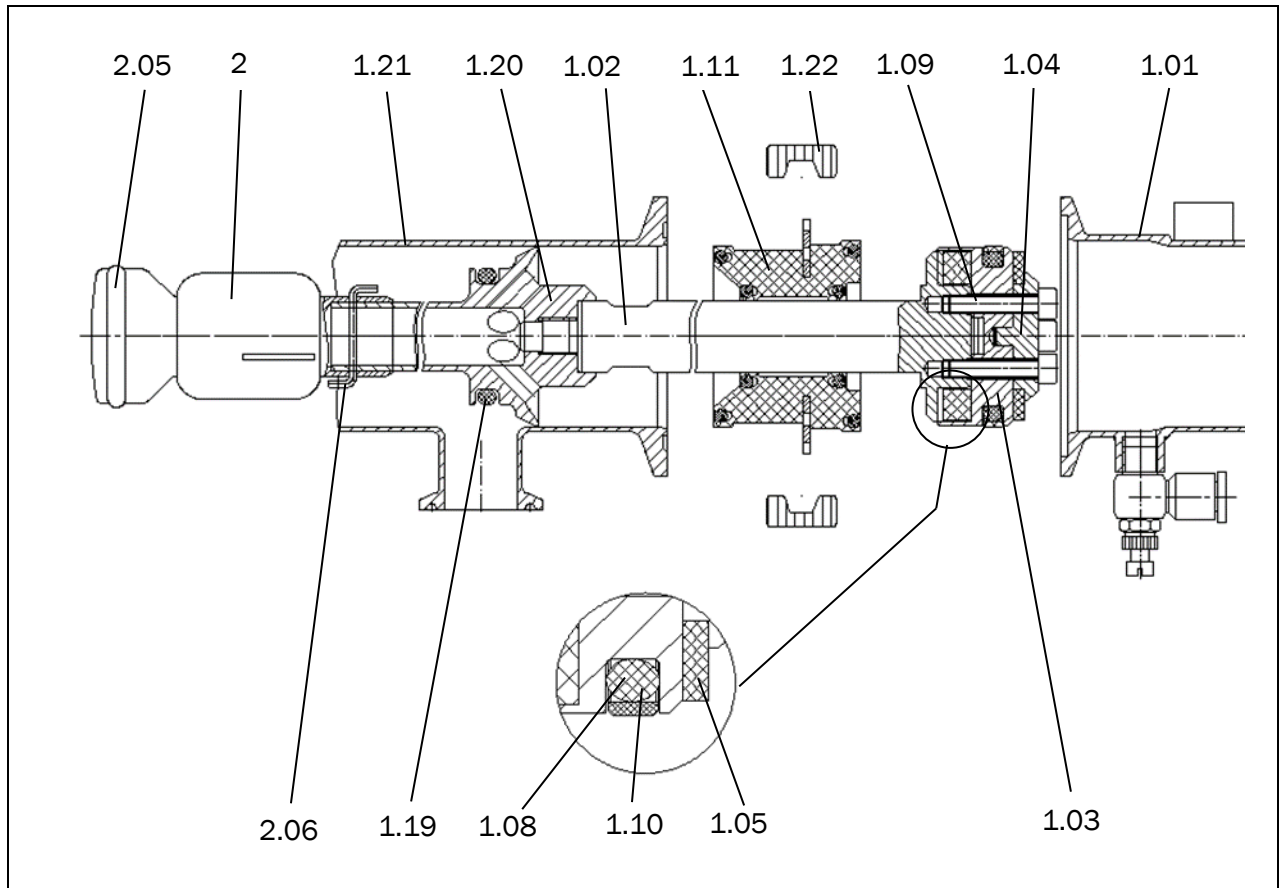

Figure 7.4-5: Replacing the O-rings, the central bearing, the piston ring and the damping ring
6. Install the new O-rings according to Figure 7.4-5.